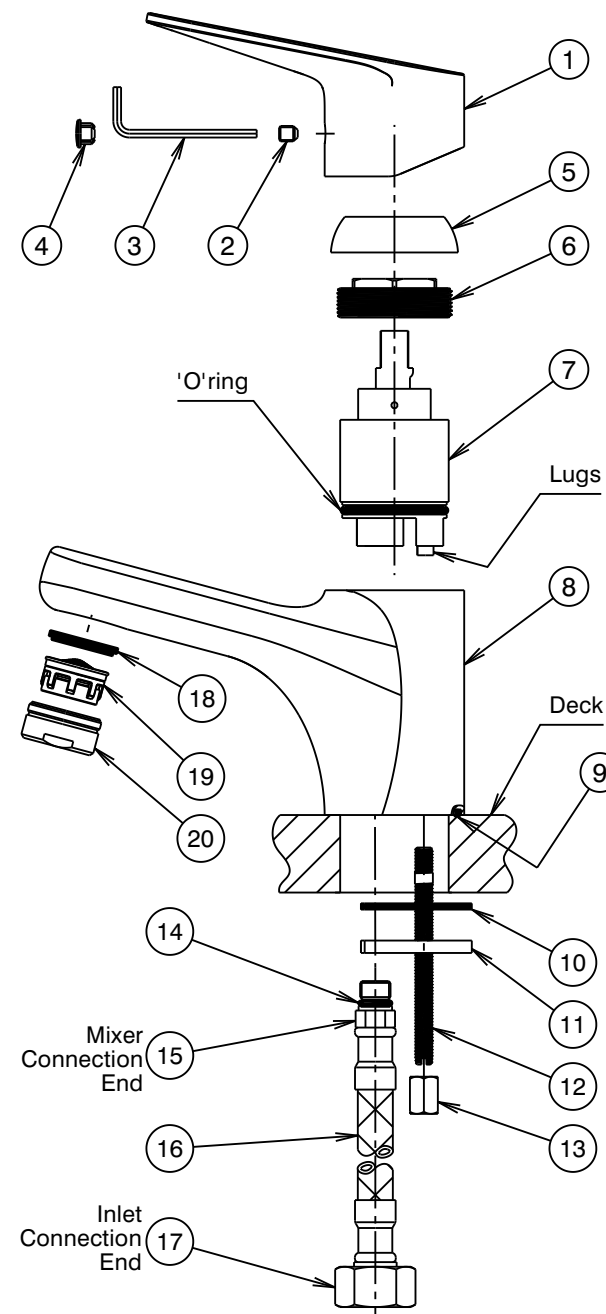

Fig. 1 IS1955A(04/23)
- 1) From fixing pack screw two studs (12) into underside of body (8). Fit 'O'ring (9) into groove in underside of mixer body (8), as shown in Fig. 1.
- 2) **Flexible Tail Mixer Connections:** Apply suitable lubricant to 'O' rings (14). Fit flexible tail (16) (with red indication) into inlet hole marked with a Red Dot in underside of mixer body (8). Hand tighten the tail, ensuring the 'O'ring (14) has fully entered the sealing bore to provide a watertight joint. Fit other flexible tail (with blue indication) into remaining hole in a similar manner.
- 3) Insert the inlet connection end (17) of each flexible tail (16) through the hole in the deck. Place mixer over deck hole, fit gasket (10) and fixing plate (11) over studs (12) then screw on fixing nuts (13). Position mixer as required then tighten fixing nuts (13) using a suitable spanner. DO NOT OVERTIGHTEN.
- 4) **Flexible Tail Inlet Connections:** Connect the flexible tails (16) to the hot and cold isolating stop taps, hand tighten the fixing nut (17) until rubber cone contacts the sealing face of the connection end, then tighten a further one turn to provide a watertight joint.